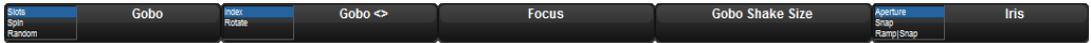

Figure 6.6. Wheels Toolbar for the Beam Parameters of a Studio Spot 575
1. Press the appropriate parameter type key : Colour or Beam or any user kind key that contains colour and beam functions. The Wheels Toolbar shows the available parameters and their current value; see *Figure 6.6, "Wheels Toolbar for the Beam Parameters of a Studio Spot 575"*.